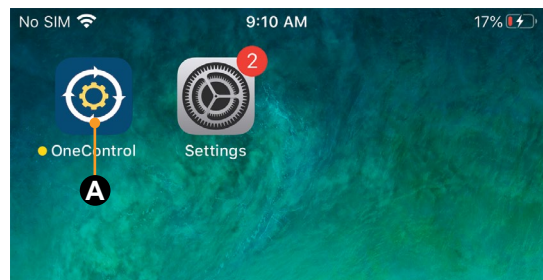
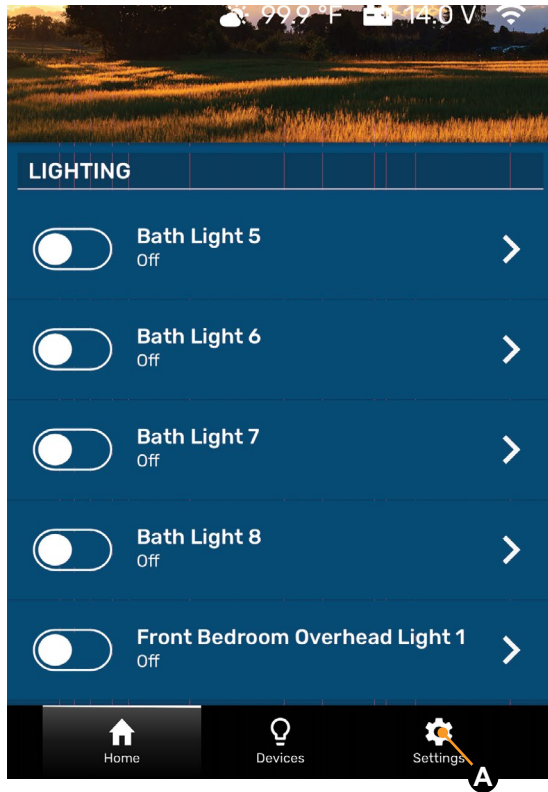

Fig.4
Fig.5
1. If using the LCI OneControl app (Fig.4), for either an iOS or Android smart phone (Fig.5), do as follows: